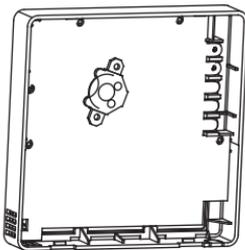

Fig 3-5
- Put the battery into the installation site and make sure the positive side of the battery is in accordance with the positive side of installation site.(See Fig.3-5)